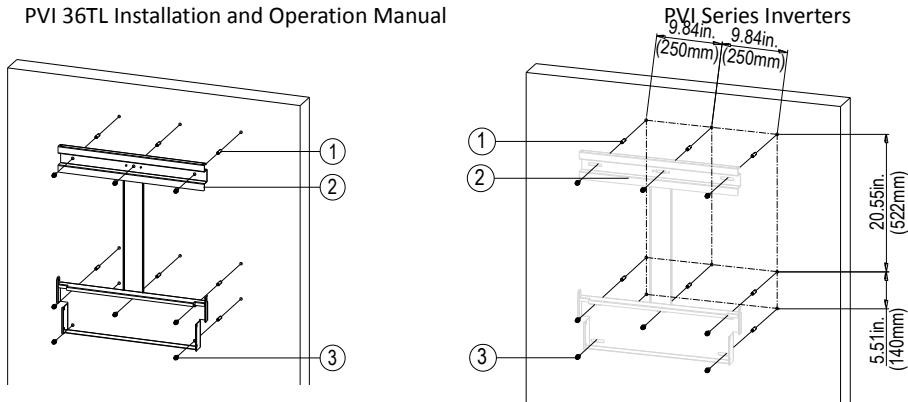

Figure 2.6 - Securing the Mounting Bracket
- (2) Drill holes at the marked positions with a 10mm (0.4in.) drill and put the **M8 expansion tubes**① into the holes; fasten the **mounting bracket**② with the **M8x25 assembling bolts**③ in the accessory kit. Figure 2.6.